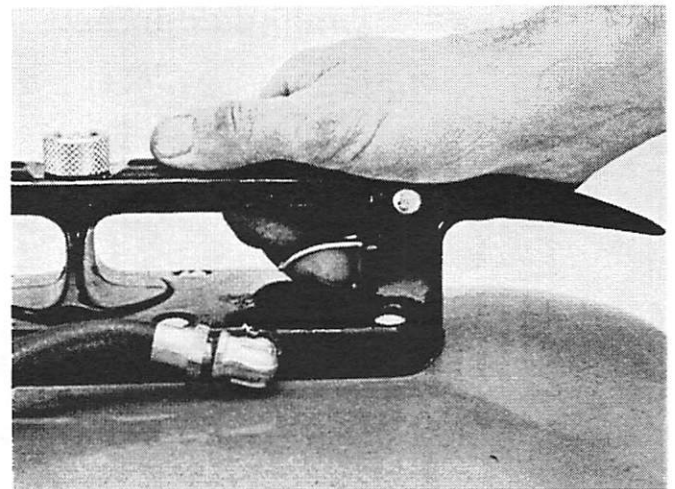

Figure 3. Priming Remote Fuel Tank (Early Model with Up-Stroke to Prime)
1. On initial priming of 6 gal. (22.7 liters) pressurized fuel tank, and after line is filled with fuel, pressure valve will remain in upstroke position. (Figure 3)